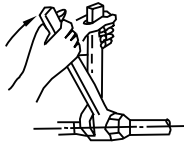

Fig.7-3
- Put the connection piping at the correct position, fasten the nuts with your hand before using a wrench. (Refer to Fig.7-3)